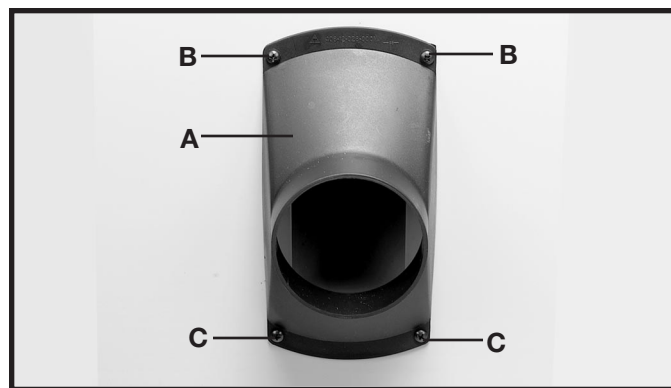

Fig. 15
- A. Align the four holes in the dust port (A) Fig. 15, with the four holes in the side of the stand.
- B. **NOTE: THE DUST CHUTE WILL ONLY BE ATTACHED AT THE TWO BOTTOM HOLES (C) IN THE DUST PORT.**
- C. Insert #10-32x1/2" pan head screws through the four holes (B) and (C) Fig. 15, in the dust port, and cabinet. Thread #10-32 hex nuts onto the screws, and tighten securely.